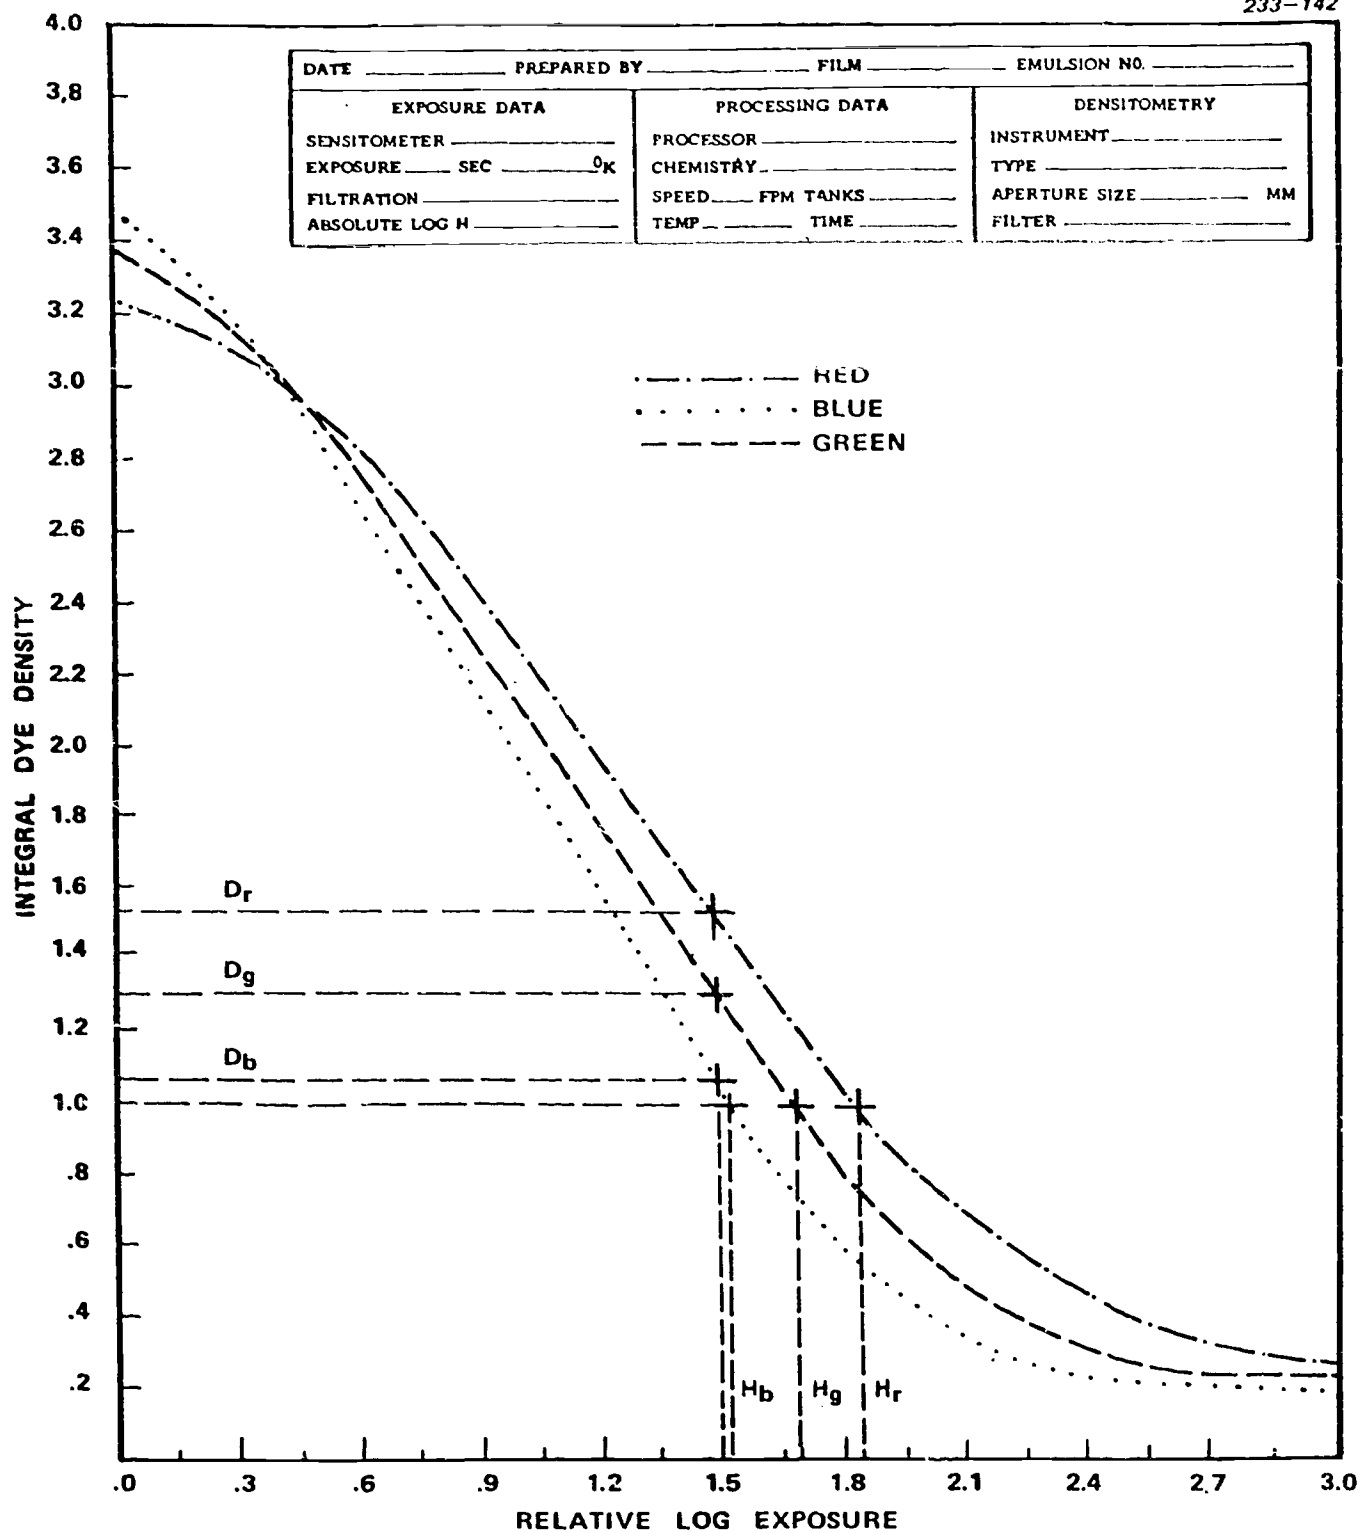
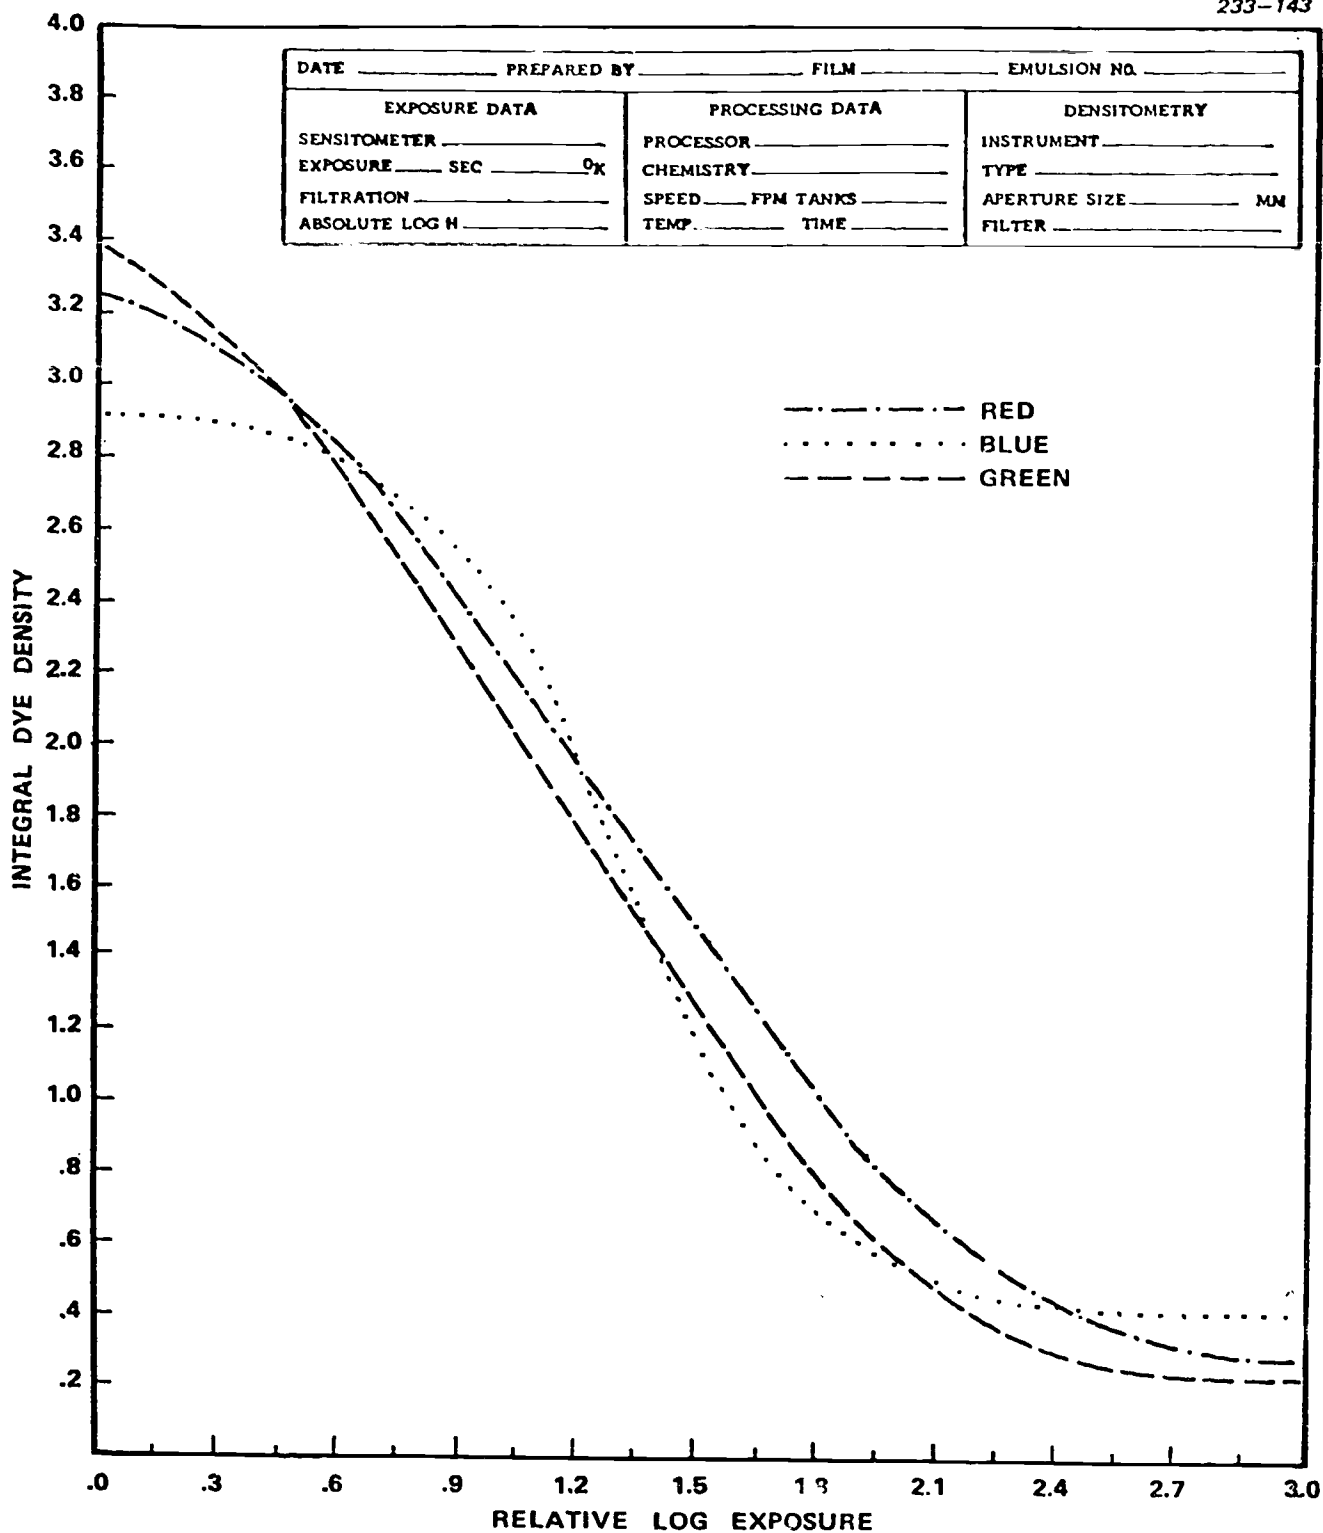
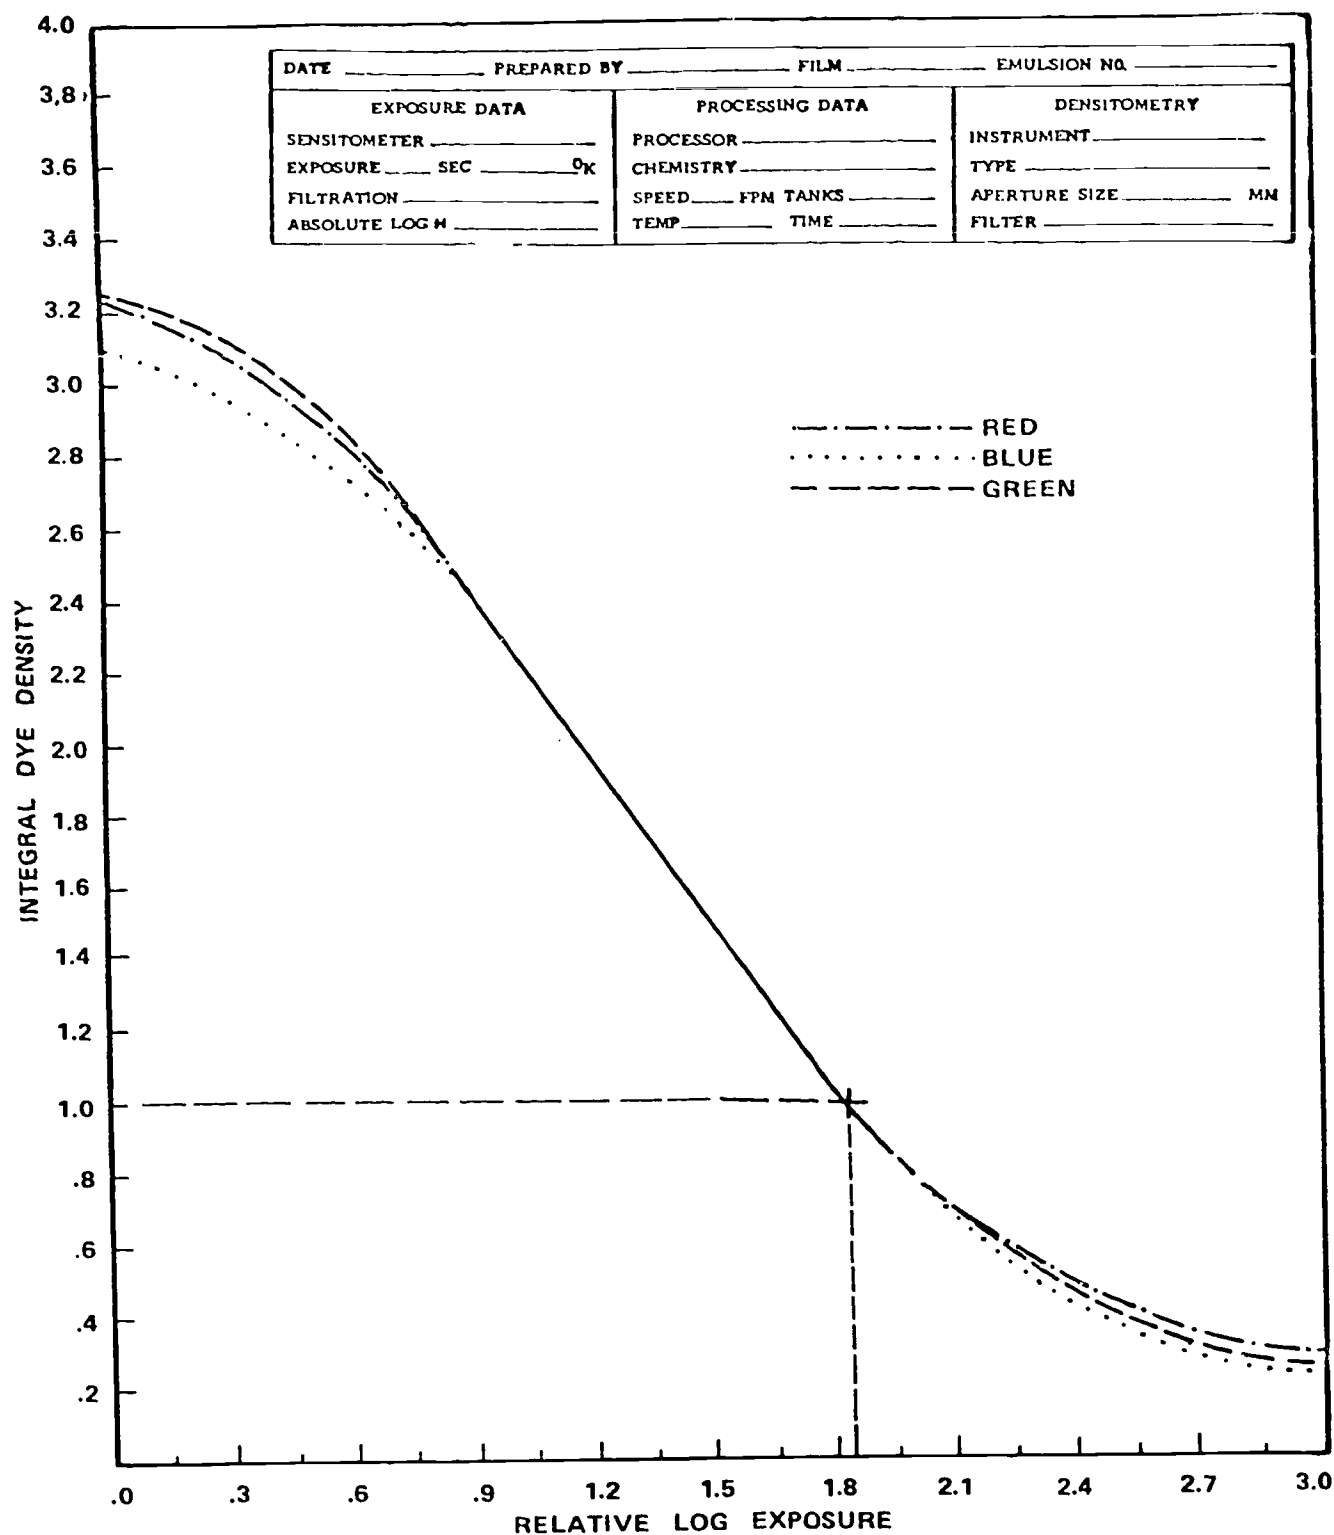

Figure 5-10. A correctable color shift in a color reversal film.
Figure 5-11. An uncorrectable color shift in a color reversal film.
Figure 5-12. A corrected color balance in a color reversal film.
The variation of density and/or contrast within each layer of the tripack emulsion produces an out-of-balance condition or a color shift. Figures 5-10 and 5-11 illustrate two examples of color shift. In figure 5-10 the curves coincide over much of their length, but with a degree of separation between them, indicating primarily a change in density with little or no change in contrast. This condition can be easily corrected with the proper procedures. Figure 5-11 exhibits a more complicated situation, that of a change in both density and contrast of one of its curves. This effect is denoted by the crossing of the lines and normally can be attributed to either reciprocity failure or interimage effects within the given layer. All that can be done to correct this situation is to bring the curves together as close as possible over the desired density range, normally the midtones. The film can be used if the color balance is acceptable over this range, bearing in mind that the shadows and highlights will exhibit some degree of a color shift. In the event the results
The analysis of reversal materials is simplified, since the film does not incorporate the masking dyes within its layers. To correct the color balance of this type of material, all three color curves should fall very near or on top of each other as previously mentioned. Figure 5-10 shows the sensitometric curves for a reversal color film which is out of color balance. In analyzing this set of curves, the visual appearance can be closely predicted at any given step along the horizontal axis. Example: In determining the visual appearance at step 11, a vertical line can be drawn from the horizontal axis up to intersect the three color curves. The resulting densities are shown on the density axis as Red (D_r) = 1.52, Green (D_g) = 1.30, and Blue (D_b) = 1.09. Since the dye density is what the eye sees, this step would appear quite bluish, and perhaps a little in the green direction.
Since the goal is a visually neutral wedge, color correction begins by drawing a single horizontal line at the density level where neutrality is most desirable (this point is usually established around a density of 1.00) and by dropping down to the horizontal axis (log H or relative log H) where the exposures may be determined. Record the exposures of these three points, making certain that each number is related to its proper color. Take the highest number (which represents the curve farthest to the right on the graph) as a standard and compute the difference between this number and each of the other two numbers. In the example shown in figure 5-10, these exposures are: Blue, Log H_b = 1.53; Green, Log H_g = 1.69; Red, Log H_r = 1.84. The difference between the blue and the green curves, when compared to the red curve, is 0.15 green and 0.31 blue. To shift these curves to the right to overlap the red curve, change the letter indicating the color of the curve to the letter of its complementary color. For example, red (R) becomes cyan, blue (B) becomes yellow, and green (G) becomes magenta. The two differences in the example would be recorded as 15 magenta and 30 yellow.
If another sensitometric strip is made and processed identically to that illustrated in figure 5-10 except for the addition of the above two filters and the compensation in exposure for their base densities, the curves will appear as in figure 5-12. The three curves should coincide at $D = 1.00$ and with the same log H point on the horizontal axis.
From the example given in figure 5-10, it was determined that a 15 Magenta and 30 Yellow would be needed for correction, which would require the use of three filters in the pack: a CC05M, CC10M, and CC30Y. The total ND factor of this filter pack would amount to about a 0.15 density, requiring approximately one-half of an f/stop more exposure. This would have to be compensated for if constant exposure is to be maintained for the red sensitive emulsion or curve.